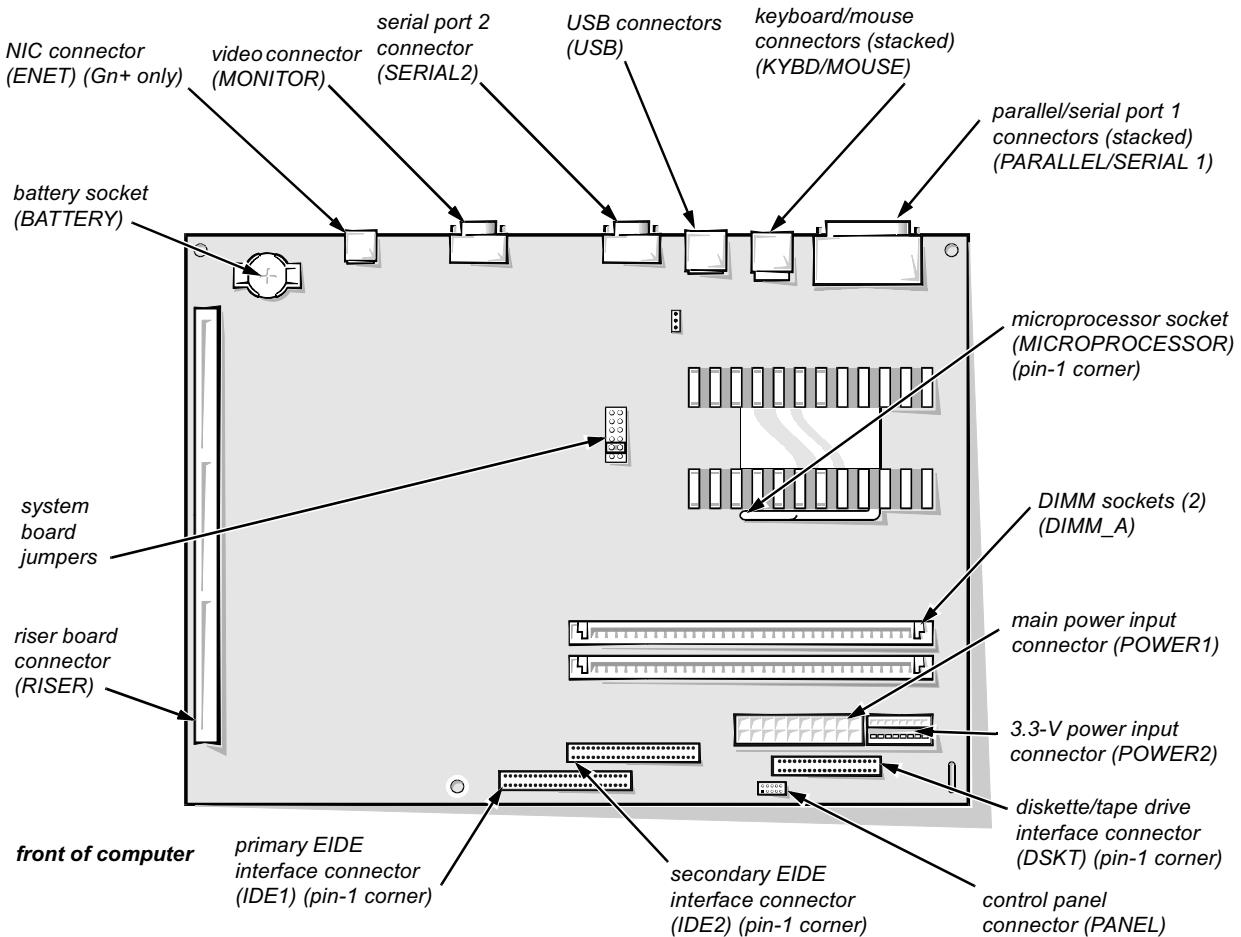

Figure 5-15. System Board Components
- 2. Disconnect the control panel cable from the PANEL connector on the system board (see Figure 5-15).**
The subsections that follow Figure 5-15 contain procedures for removing system board components.